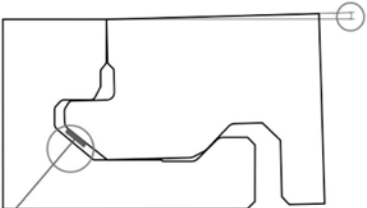

Fig. 12
- If the staple gun is not correctly positioned, staples may not be driven in completely. If the staples are inserted at an incorrect angle, shattered wood fibers may lift from the nailing surface. In either case, the result will be that the next board cannot be installed correctly (Fig. 12). Shattered fibers can be removed by scraping with a knife, and partially-driven staples should be driven manually using a nail punch.